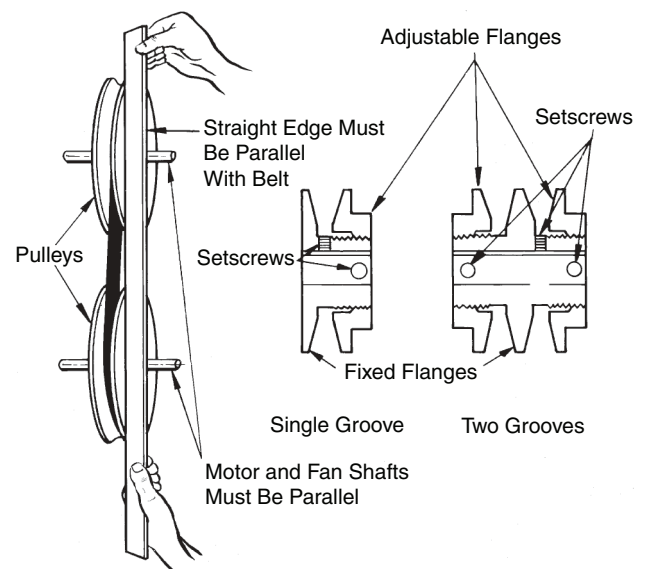

Fig. 25 — Fan Pulley Adjustments
3. Use the methods shown in Fig. 25 to check proper pulley alignment.
2. Loosen setscrew in moveable flange of pulley. Screw moveable flange toward fixed flange to increase the fan speed and away from fixed flange to reduce speed. Before tightening setscrew, make certain that setscrew is over nearest flat surface of pulley hub. (See Fig. 25.)